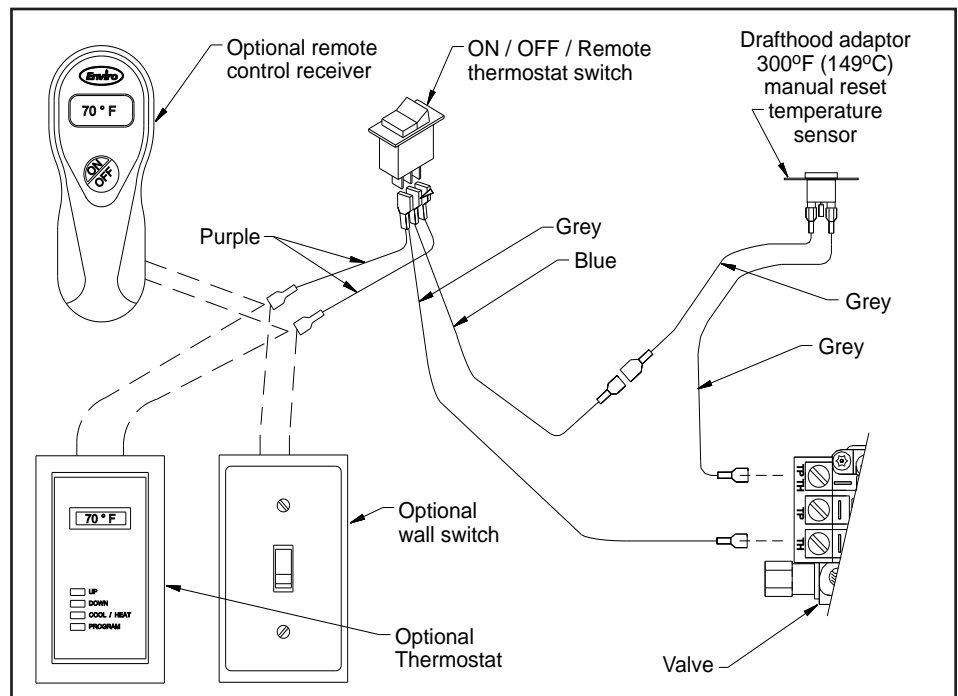

Figure 32: Wiring Diagram for Electrical Connection.
3. Being careful not to run any wiring tight across metal edges; connect them to the valve and "ON/OFF" switch (refer to Figure 32).
**WIRING DIAGRAM:** When installing the Draft Hood Adaptor onto a fireplace fitted with an optional wall switch or an optional thermostat, remove one wire from the switch to the gas valve and connect the Draft Hood Adaptor harness as shown in Figure 32.
2. Disconnect the spill switch wires from the valve and on/off/remote rocker switch wire (see Figure 32).